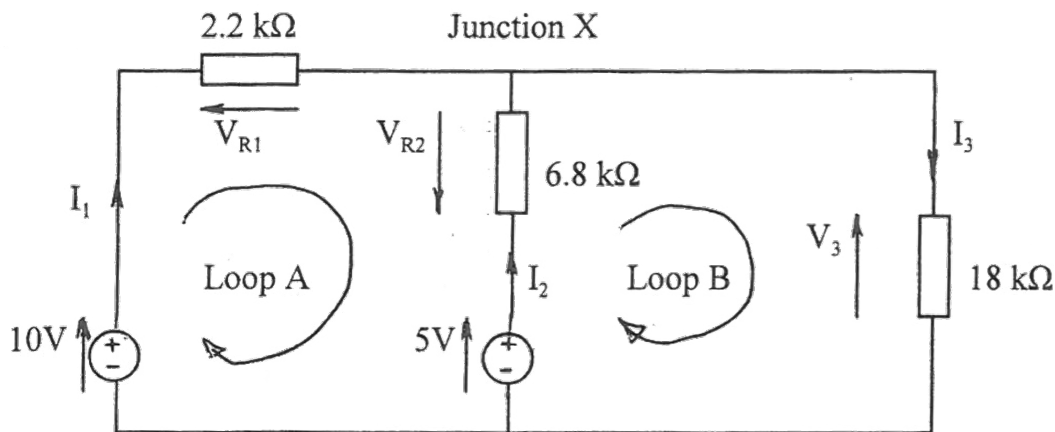

Figure 1: DC Measurement Setup
In this Experiment the voltages across a DC-Circuit (as shown in Fig. 1) shall be calculated and then measured with.
3. Connect up the circuit shown in Fig. 1, dc on the bread board with long wires for the power supplies.